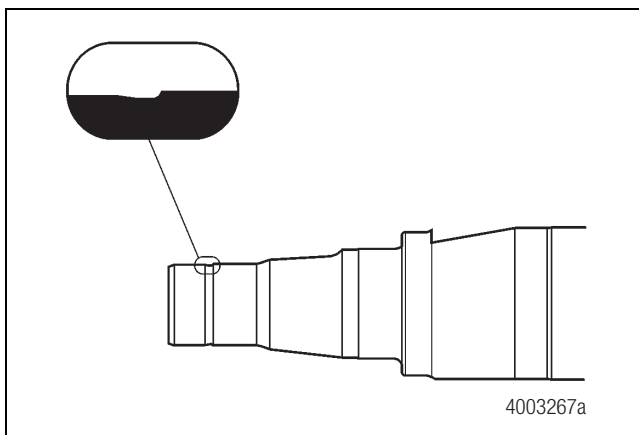

Figure 9.4
- On manual adjust axles, no shoulder is present. Figure 9.4.